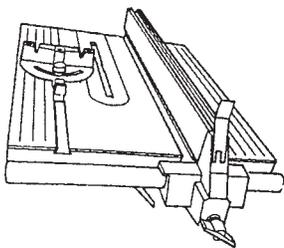

Figure B-93
72. Place the miter gauge in the left slot of the worktable on the infeed side, as shown in Figure B-93.